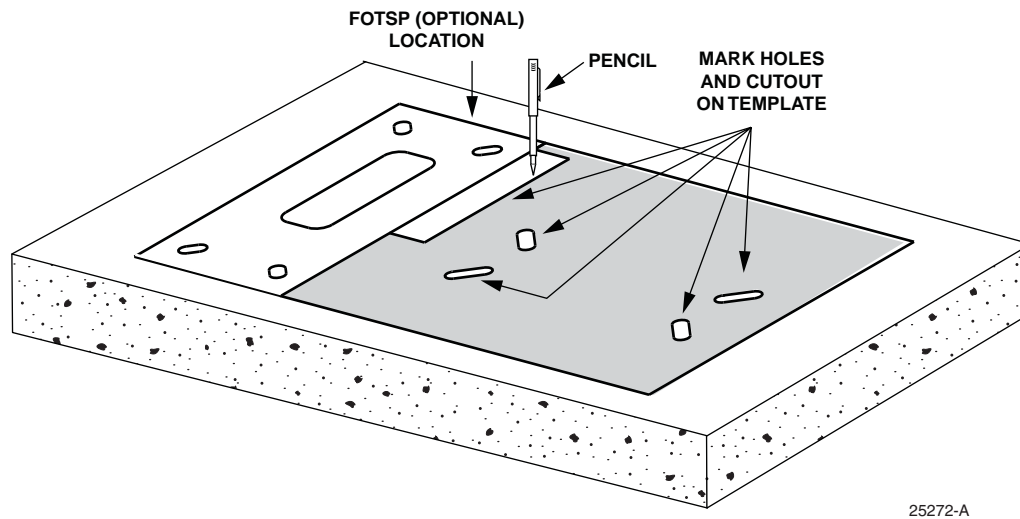

Figure 4. Marking Concrete
2. Place the isolation pad on the concrete floor at the location just chosen, and use it as a template to mark the concrete for the four mounting holes as shown in Figure 4. If optional FOTSP will also be installed, mark the location for the FOTSP, also, as shown.